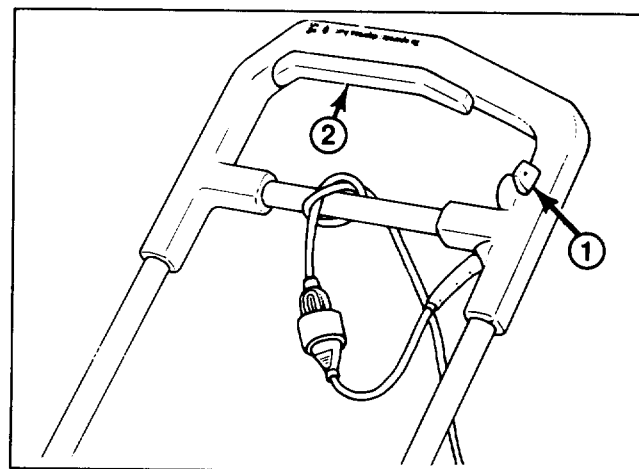

Figure 5
snowthrower cord; refer to page 4, Figure 5 for proper procedures.
2. Before connecting the extension cord to the snowthrower cord, tie the extension cord to the upper metal tube of the snowthrower as shown in Fig. 5. This helps prevent cord separation during operation.
To start rotor, squeeze the control bar. To stop rotor, release the control bar (Fig. 5).